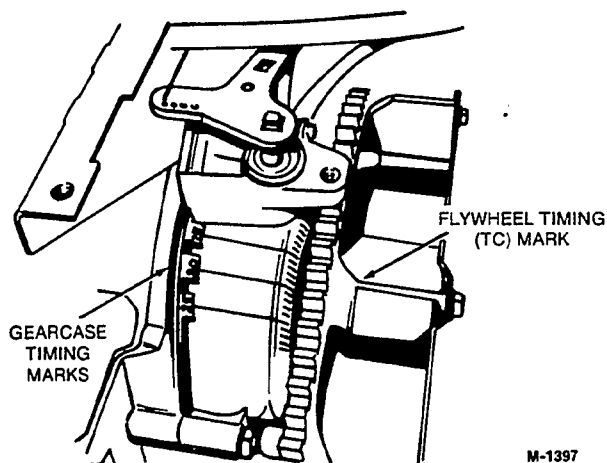

FIGURE 2. TIMING MARKS
2. Remove blower housing to expose timing marks on top of gearcase cover and flywheel (Figure 2).
3. Rotate flywheel clockwise until timing mark is aligned with the proper number of timing degrees (Figure 2) stamped on the top of gearcase cover. Refer to *SPECIFICATIONS* for proper number of timing degrees.